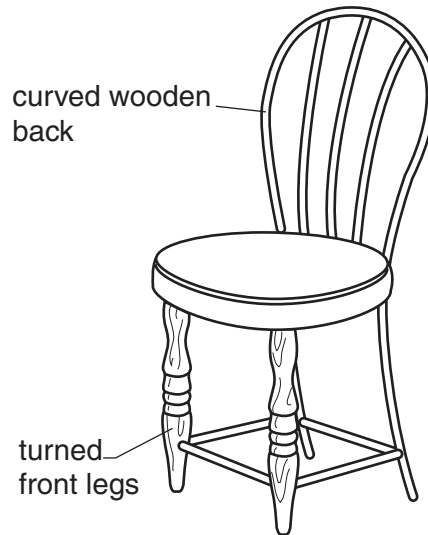
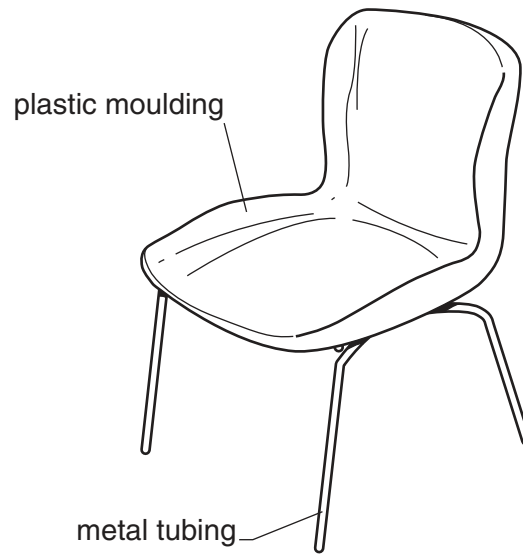

Fig. 6
Fig. 7
- 9 Fig. 6 shows a chair made from wood with an upholstered seat.
When considering what type of chair to use in a school the chair shown in Fig. 7 was chosen rather than the wooden one shown in Fig. 6.